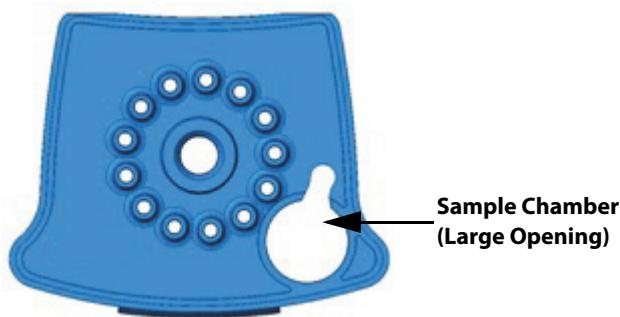

Figure 1. Xpert MRSA Cartridge (Top View).
7. Open the cartridge lid. Using a sterile transfer pipette, transfer the entire contents of the Elution Reagent to the sample chamber (Figure 1) in the GeneXpert cartridge.